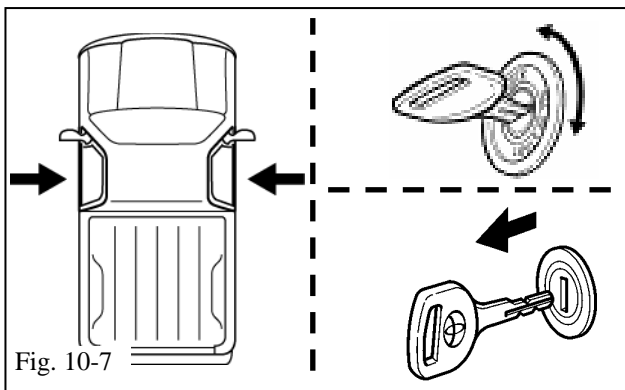

Fig. 10-7
- (j) Verify that all doors are closed. (Fig. 10-7)
- (1) Do not close the Hood.
- (k) Turn the Key to the "ON" position and back to the "OFF" position. (Fig. 10-7)
- (l) Remove the Key from the ignition switch. (Fig. 10-7)